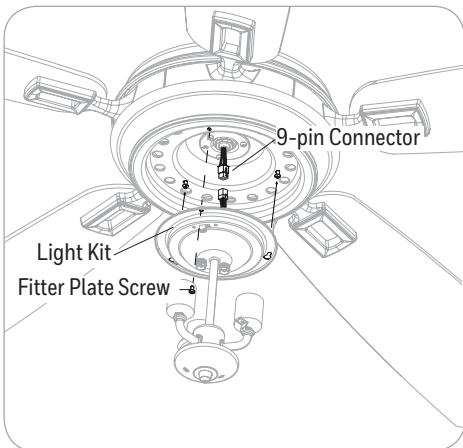

Figure 5.7
- Remove one of the three light pan screws from the light pan and loosen the other two screws. Then, connect the 9-pin connector from the fan to the 9-pin connectors from the light kit. Align the screw holes of the light kit over the loosened light pan screws and turn in a clockwise direction. Replace previously removed light pan screw. Tighten all screws (Figure 5.7).